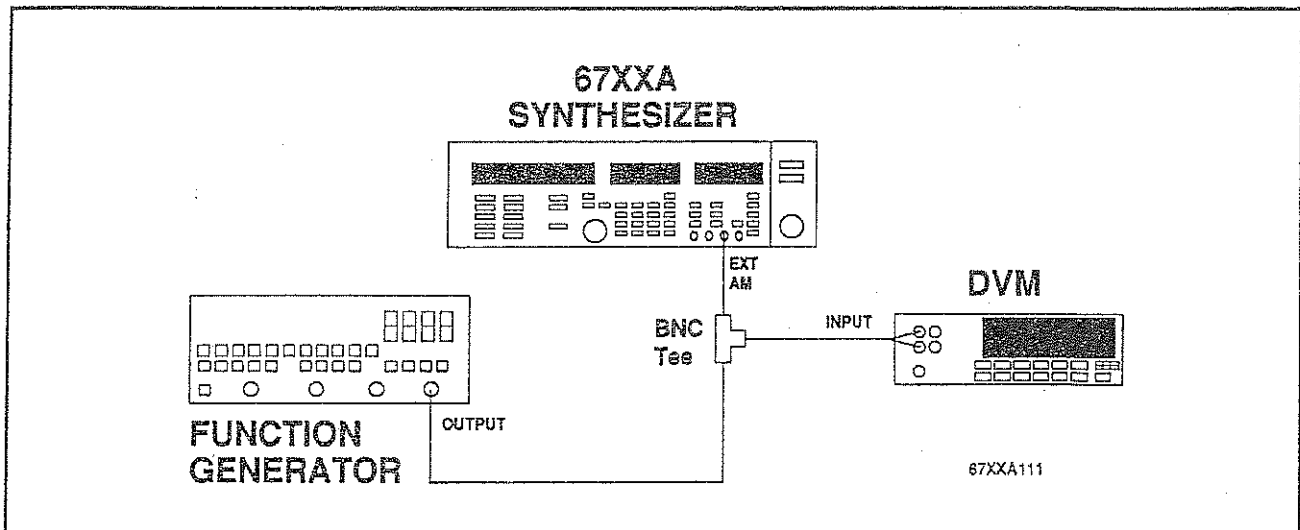

Figure 3-14. Test Equipment Setup for AM Meter Calibration
1. Connect the equipment as was shown in Figure 3-14.